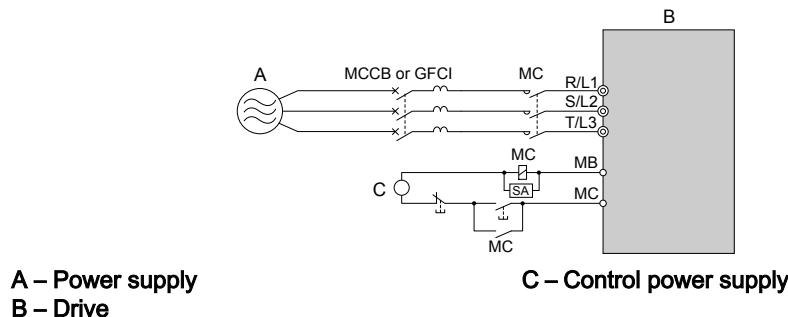

Figure 8.23 Power Supply Interrupt Wiring (Example)
- If several drives are connected to one MCCB or GFCI that is shared with other equipment, use a sequence that shuts the power OFF when errors are output by using magnetic contactor (MC) as shown in **Figure 8.23**.